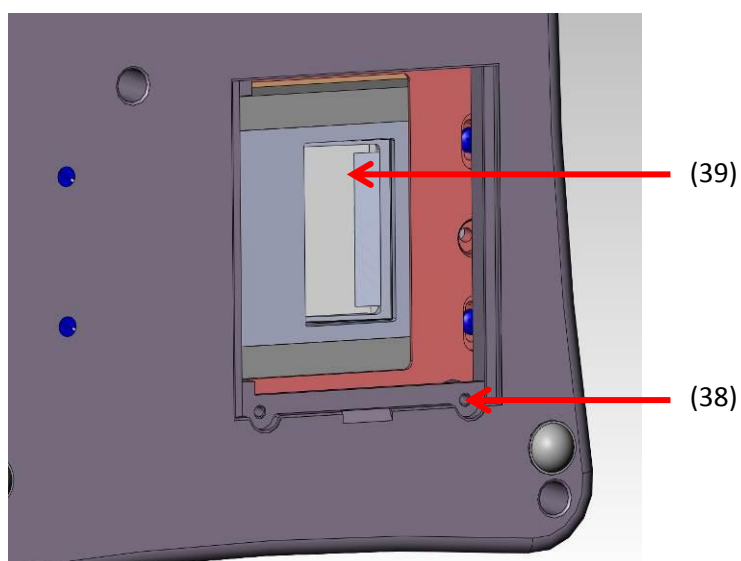

Figure 39: Underside of the device with open cover
- Loosen the screws (38) and remove the cover (**Figure**).
Figure 39 shows the well with the cover open. Also visible is the glass plate (39) at the end of the optical unit.